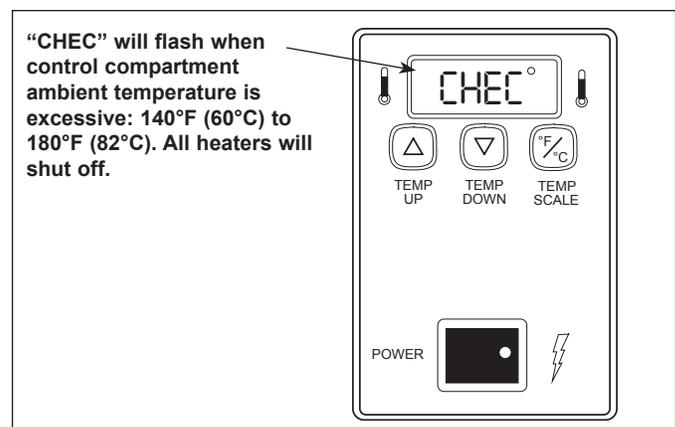

Figure 8. “CHEC” Fault Message
- If incoming power drops below 175 Volts, the heating circuits are disabled and the display will read “PO” (Figure 8). To reset, the voltage must be over 190 Volts, then the unit must be turned off and back on. If this condition repeats, contact your Authorized Service Agency.